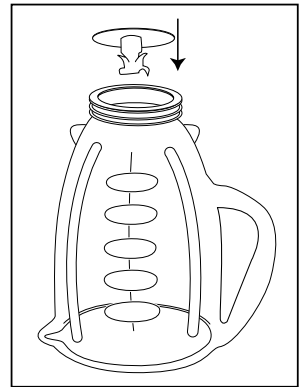

FIGURE 3
4. Place blade into jar. (*Figure 3*)